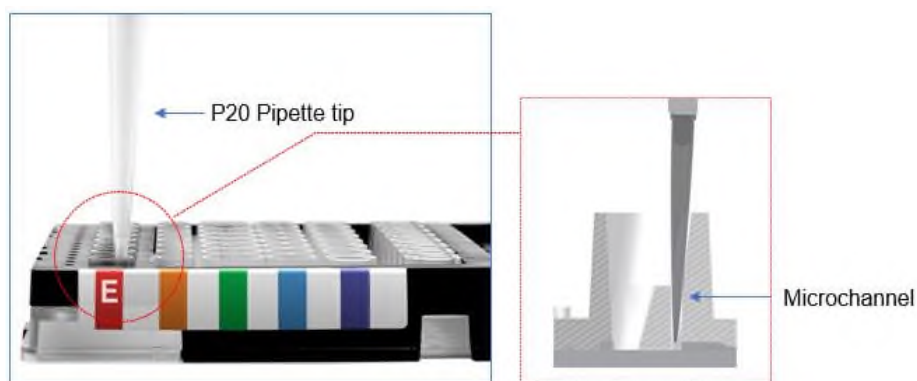

Figure 8. Recovery of any remaining RNA from the Extraction Well microchannel
3. Using a P20 pipette set to 10 μ L, aspirate any remaining RNA extract from the microchannel on the right side of the Extraction Buffer well and combine with the extract from Step 2. See **Figure 8**.